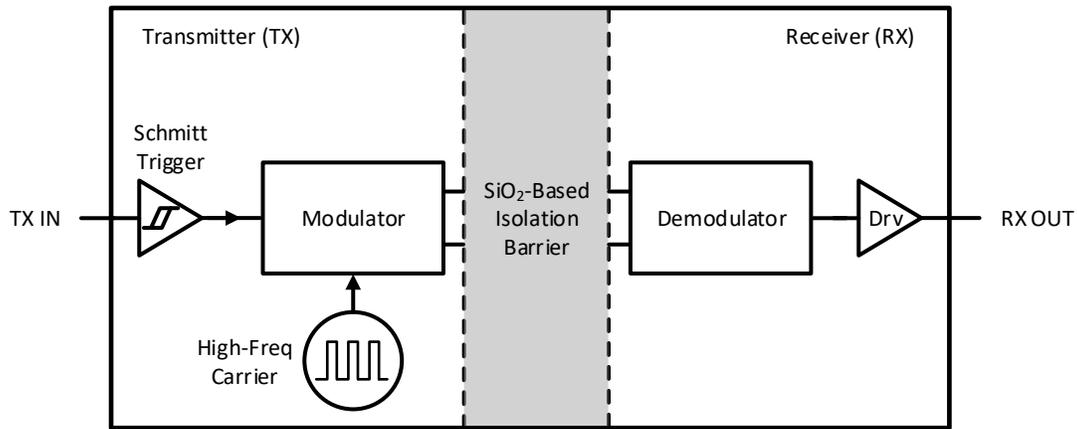
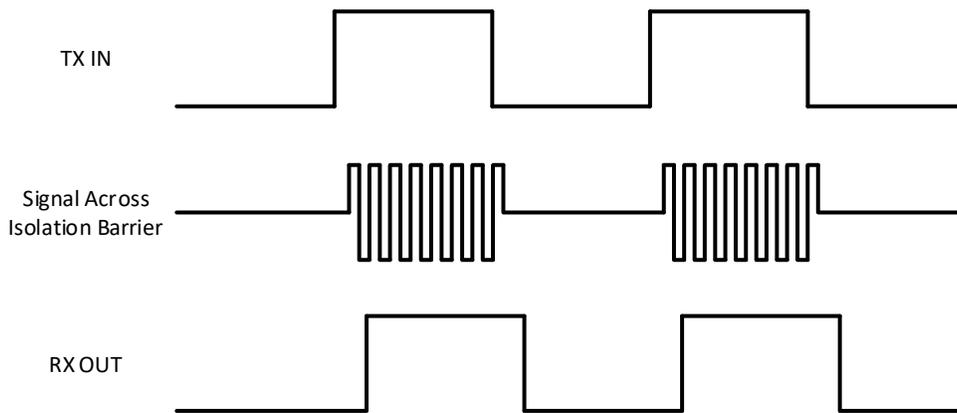

Figure 9-2 Block Diagram of an Isolation Channel
Figure 9-3 Conceptual Operation Waveforms of OOK Modulation Scheme
The CA-IS1311 devices utilize a simple on-off keying (OOK) modulation scheme to transmit the digital bitstream across the SiO2-based isolation barrier which supports up to 5-kVRMS galvanic isolation between high- and low-voltage domain. The block diagram of an isolation channel is shown in Figure 9-2. As shown in Figure 9-3, the transmitter (TX) modulates the digital bitstream with